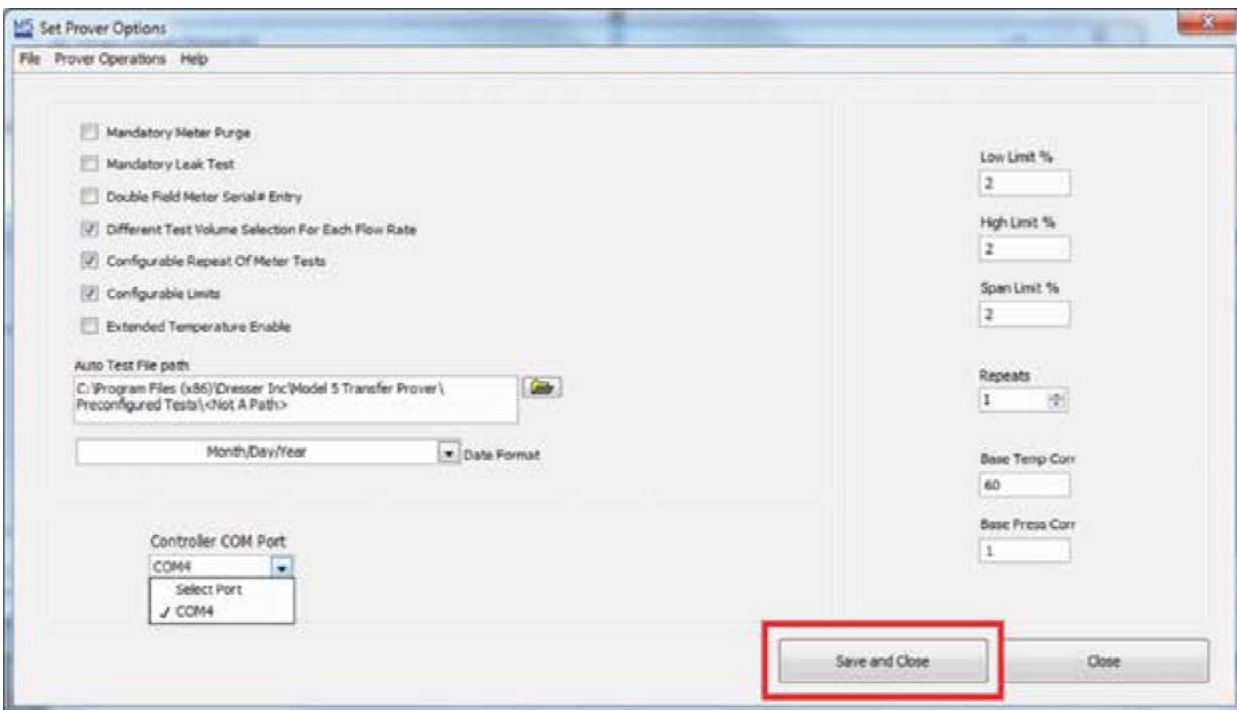

Figure 21: Click “Save and Close”
9. On the “Set Prover Operations” window, select “Save and Close” as shown in Figure 21.